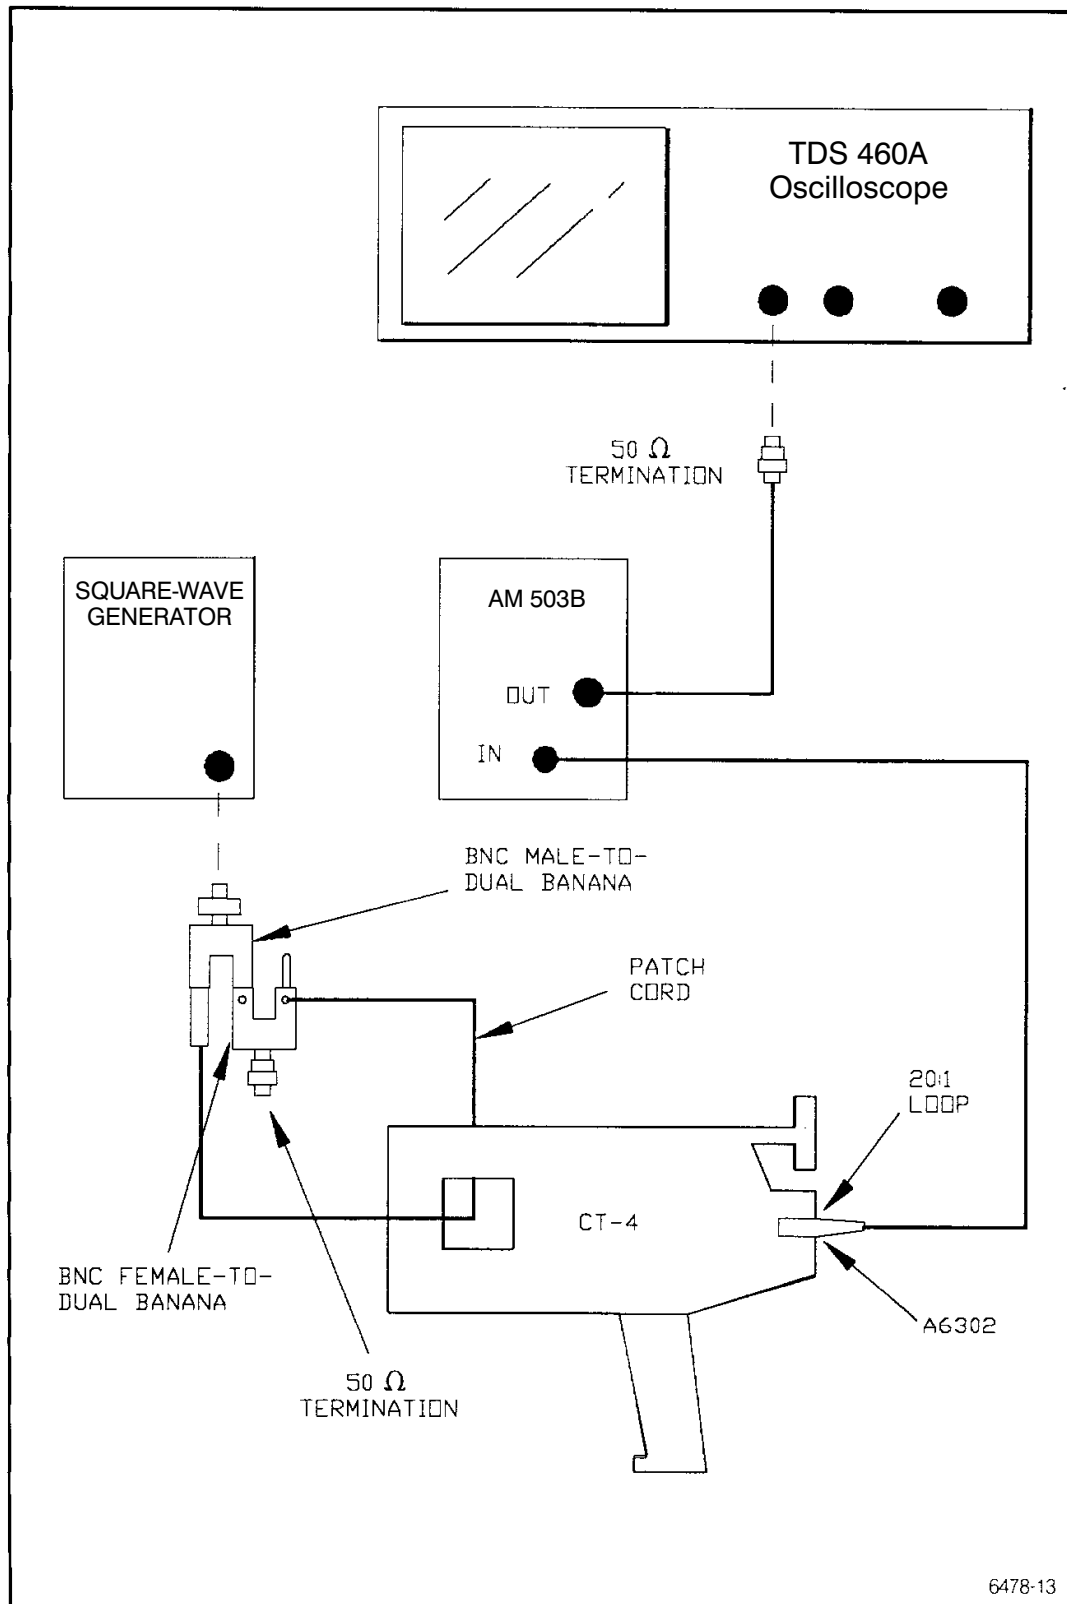

Fig. 4-1. Equipment setup for checking low-frequency response.
- Connect the CT-4 and test equipment as shown in Fig. 4-1.